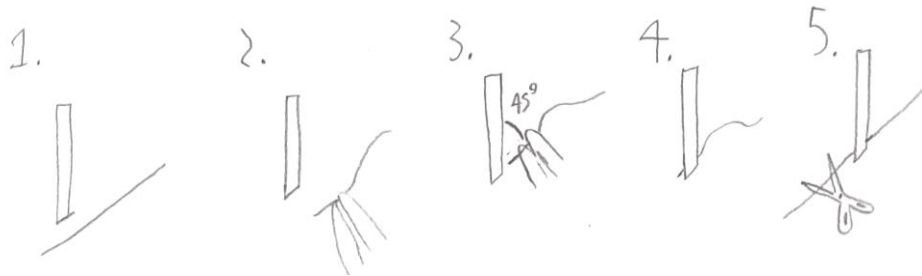

Figure 1: How to rethread the tip of the wedge
4. Thread the wire through the tip of the wedge. (Figure 1)
- a. Make sure there is enough wire to work with (Figure 1, Step 1)
- b. Using the tweezers, grab the wire close to its end. (Figure 1, Step 2)
- c. Move the wire behind the wedge and thread it in. (Figure 1, Step 3)
- d. A little bit of wire should be exiting the tip. (Figure 1, Step 4)
- e. Pull the bent wire through and cut any access wire. (Figure 1, Step 5)